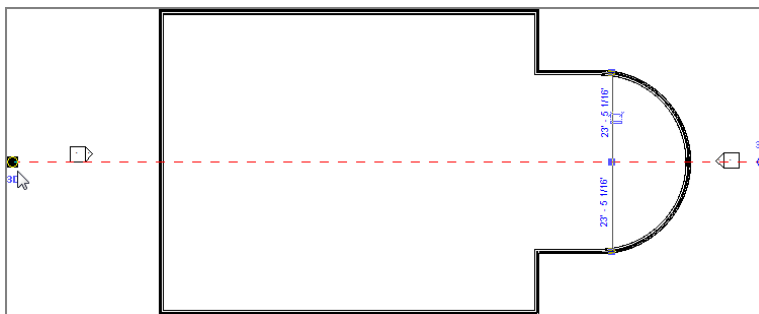

FIGURE 2.3: You can grip-edit reference planes to the required length.
4. Draw the reference plane through the center of the building, extending each end past the exterior walls. (Remember, this is a construction line. You can go long if you need to.) See Figure 2.3 for an idea of where the line should go. If you're having trouble locating the reference points for the start of the reference plane, make sure you're snapping to the midpoint of the walls. You can also type `SM` to snap to the midpoint of the wall.
6. If the line isn't the length you want, you can stretch it. First select the line; at each end, you see blue grips. Simply pick (left-click) the grip, and stretch the reference plane to the desired length, as shown in Figure 2.3.